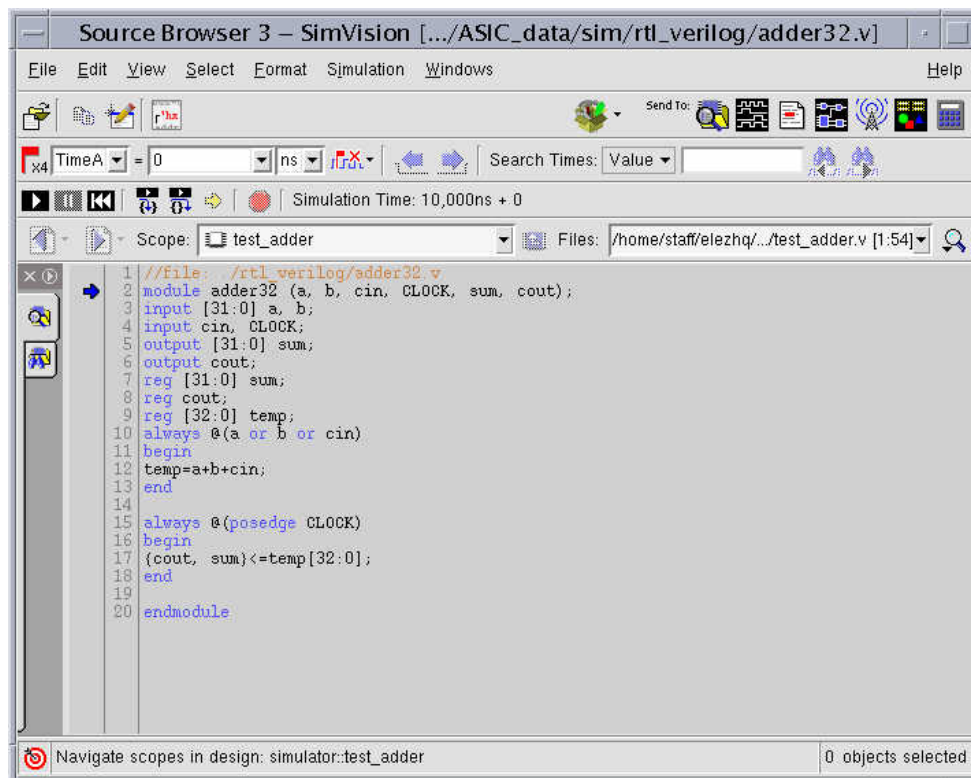

Figure 3-28 Displaying source code in the source Browser.
3. From the **Signal Flow Browser window**, select the first driver. The Source Browser now points to the line in the source file where the first driver is set to, as shown in figure 3-28.